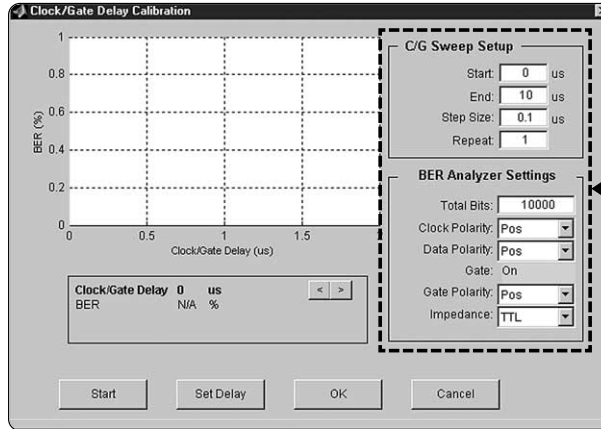

Figure 45. Clock/Gate Delay calibration utility setup.
5. Configure the automated clock/gate delay calibration utility, Figure 45. In this example, the clock/gate sweep end field is set to 10 us. Default values are used for the remaining configuration fields.